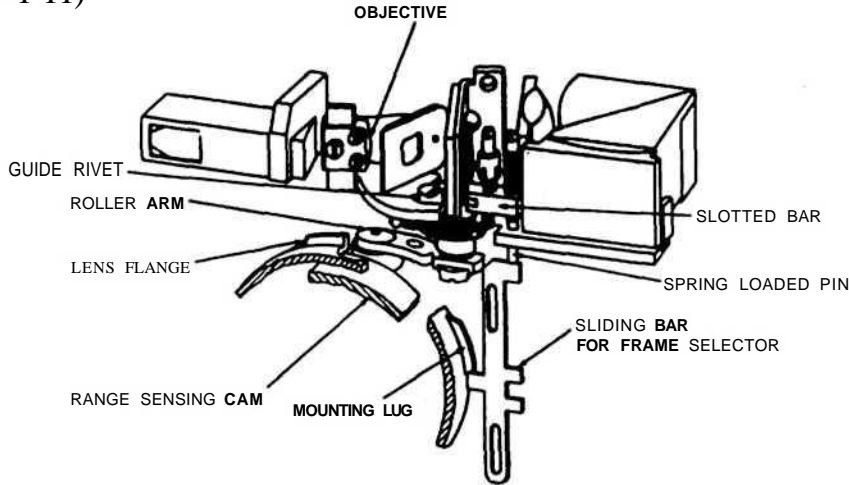
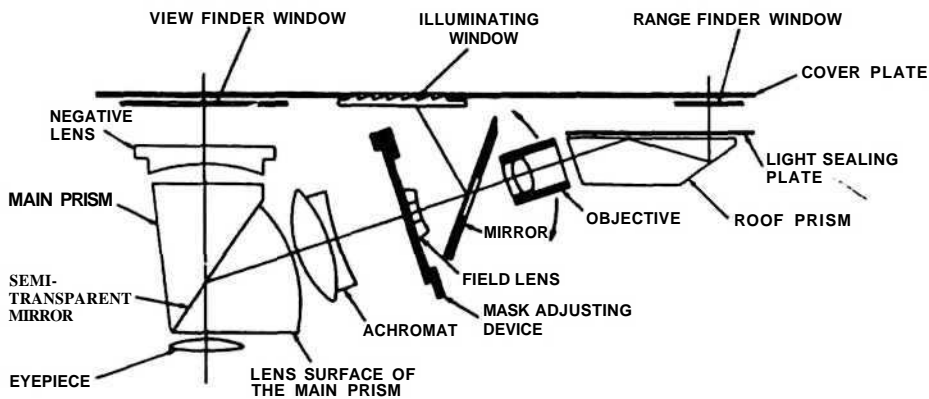

Figure 1-11. Range-Viewfinder, Mechanical Schematic.
Figure 1-12. Range-Viewfinder, Optical Schematic.
(Fig. 1-11)
a. Rangefinder (fig. 1-12)
Basically, the rangefinder is optical triangulation of fixed and movable images of the subject being photographed. The fixed image is the viewfinder image, and the movable image is controlled by a swinging objective lens. A cam on the camera lens focusing mount, through the rangefinder roller arm, transmits the focusing movements to the rangefinder objective lens (fig. 1-11). When the two images coincide, the lens is correctly focused.
- (1) *Optical system.* Rays from the subject enter the fixed roof prism and are inverted. They pass through the objective lens, the mirror aperture, and an opening in the field lens, and are focused in the plane of the bright-line frames. An opening in the center of the metal mask permit formation of an aerial image. The image is viewed through the eyelens, and combines with the viewfinder image in the beam-splitting prism.
- (2) *Mechanical functioning* (fig. 1-11, 26). As the lens focusing mount is rotated, a cam on its rear surface, actuates the rangefinder roller arm. A cam on the upper part of the roller arm axel (23) fig. 26 moves the objective lever assembly through an arc. The swing of the objective lens changes the angle between the images. The objective lever assembly is spring loaded and mounted on ball bearing pivots (8).
6. *Viewfinder* (fig. 1-12). The viewfinder system consists of an eyelens, main prism with semi-transparent mirror, and a negative lens. A parallax-adjusting bright-line frame assembly outlines the field of various lenses. Disassociated optically, but coupled mechanically, is a frame selector (fig. 1-11) permitting preview of the fields covered by the 35mm, 50mm and 90mm lenses.
(1) *Optical system* (fig. 1-12).
(2) *Mechanical functioning* (fig. 1-11, 27).
- (a) *Bright-line frame assembly.* The bright-line frames are contained between two cemented glass plates. The frame, corresponding to the lens mounted on the camera, is displayed in the viewfinder by the metal mask (7), fig. 27 which slides across the glass plate. The mask is actuated over a sliding bar (fig. 1-11), by one of the mounting lugs on the camera lens.
- (c) *Frame selector.* Fields covered by the different focal length lenses may also be displayed in the viewfinder by operating a frame selector on the front of the camera. The frame selector moves a bar (fig. 1-11) which actuates a spring-loaded pin. The pin, through a slotted bar and lever arrangement, moves the metal mask across the glass plate. When the selector is pushed toward the camera lens the 90mm frame shows in the viewfinder, and when pushed away from the lens the 35mm frame is shown. The 50mm frame is positioned when the frame selector lever is in the vertical position.